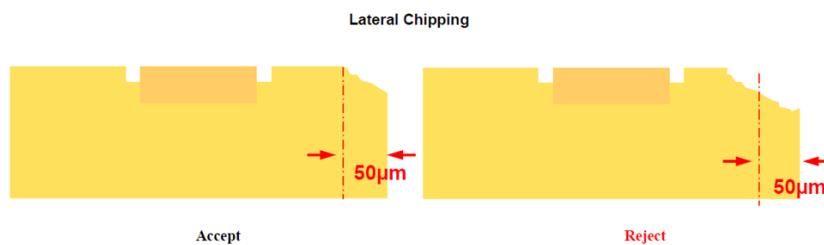

Fig. 1
- Chipping less than 50 μm in the corner of a chip or bar has no effect on the lasing modes and the subsequent soldering process is within specs, as shown in Fig.1.